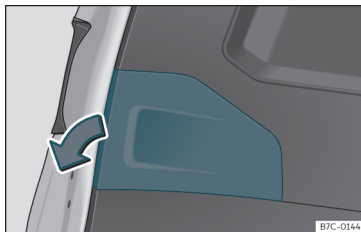

Fig. 93 Rear lid open: remove the lid.
1. Remove the rear lid cover in the direction indicated »» Fig. 93.